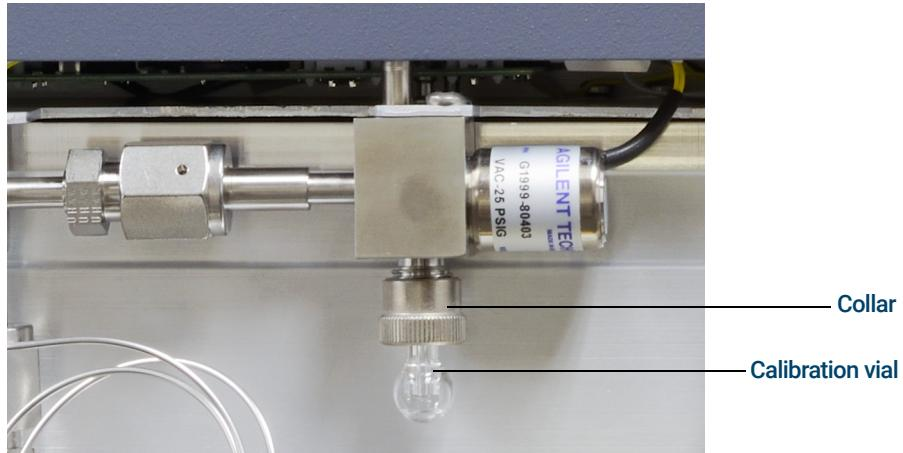

Figure 17. Removing the CI calibration vial
- 8 Turn the CI vial collar counterclockwise to loosen it (Figure 17 on page 91). Do not remove the collar.